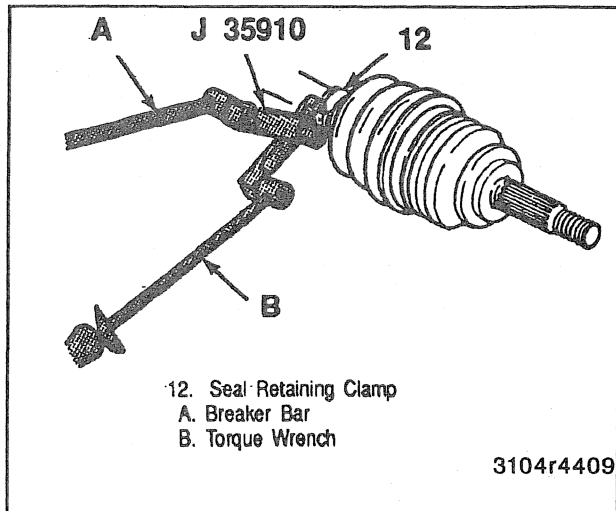
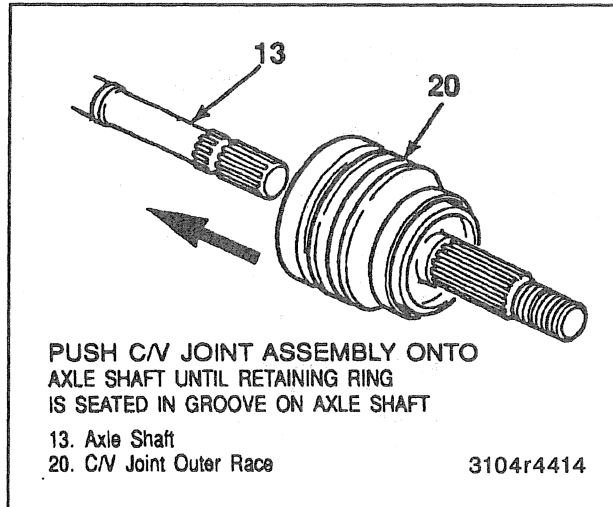

Figure 14—Installing Seal Retaining Clamp
Figure 19—Installing C/V Joint to Axle
- Retaining clamp (12) to 136 N.m (100 lbs. ft.) (figure 14).
- C. Place approximately half of the grease provided inside the seal (12) and repack the C/V with the remaining grease.
4. Swage ring (9).
- Pinch by hand slightly to distort into an oval shape and slide onto large diameter of the seal (12).
- Push C/V joint onto axle shaft (13) until retaining ring (14) is seated in groove on axle shaft (figure 19).
1. Small seal-retaining clamp (11) on the neck of the new seal (12). Do not crimp.
- A. Slide the seal (12) onto the axle shaft (13) and position the neck of the seal in the seal groove on the axle shaft.
- B. Crimp the self-retaining clamp (11) with J 35910 to 136 N.m (100 lbs. ft.) (figure 19).
2. Swage ring (9).
- A. Pinch by hand slightly to distort into an oval shape and slide onto large diameter of the seal (12).
- B. Push C/V joint onto axle shaft (13) until retaining ring (14) is seated in groove on axle shaft.
- C. Slide large diameter of the seal (12) with the large swage ring (9) in place over the outside of the C/V joint race (18) and locate the seal lip in the housing groove.
- Crimp seal retaining clamp (11) with J 35910 to 136 N.m (100 lbs. ft.) (figure 14).